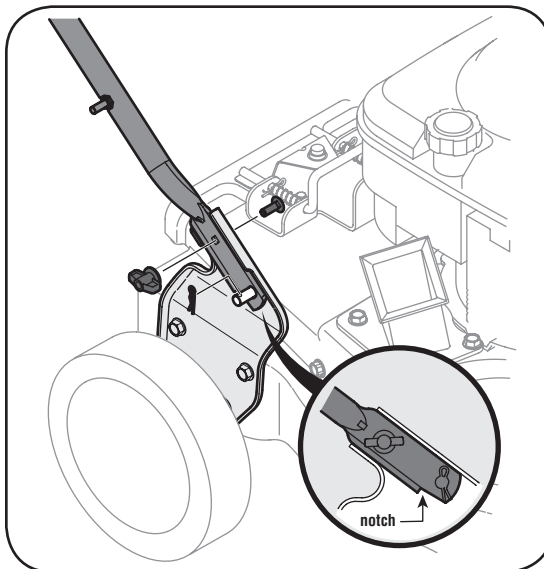

Figure 3-2
- a. Place the bottom holes in lower handle (notch pointing down) over the pins on the handle brackets and secure with hairpin clips. See Figure 3-2.
- b. Insert carriage screws through upper hole in lower handle from the inside and secure with wing nuts. See Figure 3-2.